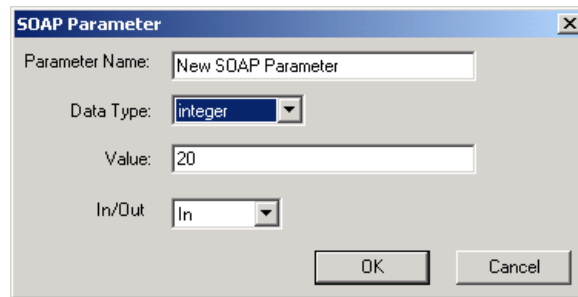

Figure 37-6. The SOAP Add Parameter Dialog
- 10 To add a parameter, right-click on the SOAP Parameter grid and select **Add** from the popup. The SOAP Parameter dialog appears (see Figure 37-6, below).